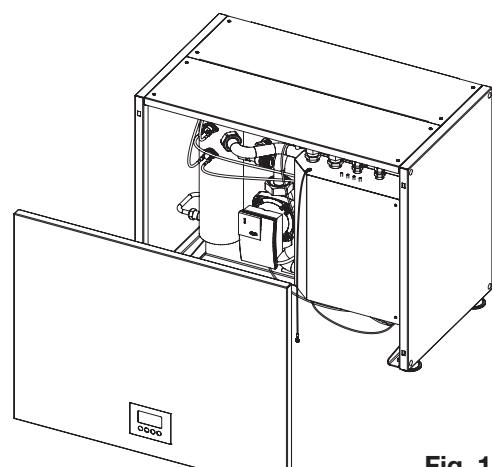

Fig. 1
- Remove the front panel from the unit, pulling towards you (fig. 1).
- Remove the front panel (**fig.1**).